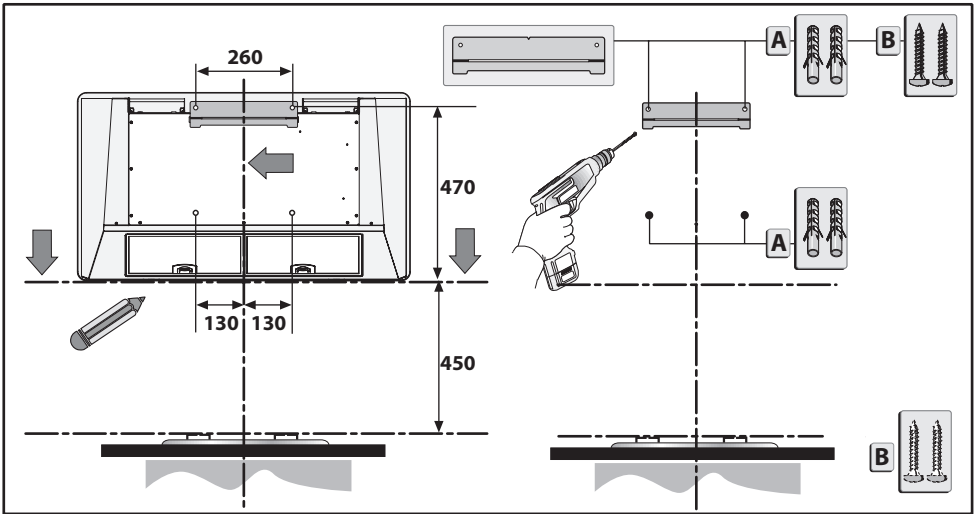

Fig.3
Trace the bottom side of the hood on the wall. Consider the measurements shown in fig. 3 and minimum distance from the cooking surface.
- Mark and drill the holes, following the measurements shown in fig. 3.
- Fasten the 4 anchors **A** fig. 3.
- Fasten bracket **C** to the wall using the 2 screws **B** fig. 3.